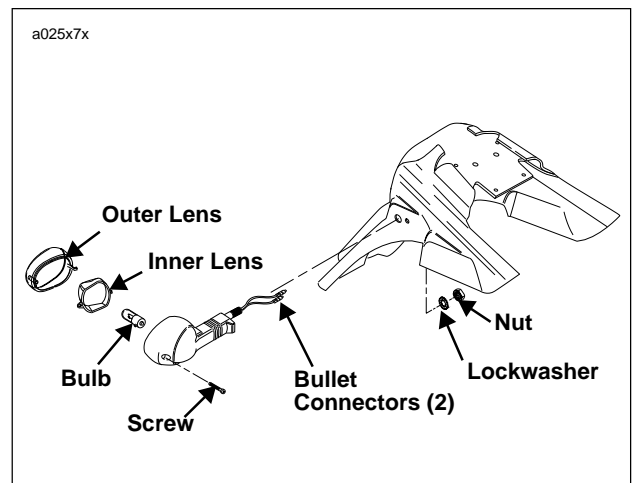

Figure 7-71. Rear Turn Signals
3. See Figure 7-71. Remove nut and lockwasher.
- See Figure 7-71. Insert bullet connectors through rear hole in tail lamp bracket. Attach turn signal using lock-washer and nut. Tighten nut to 25-28 **in-lbs** (2.8-3.2 Nm).